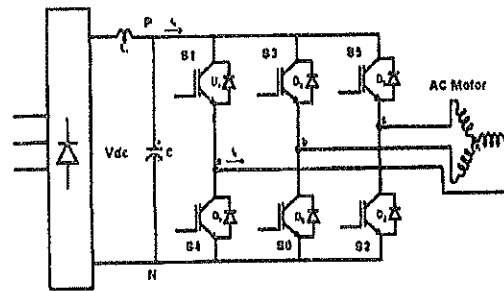
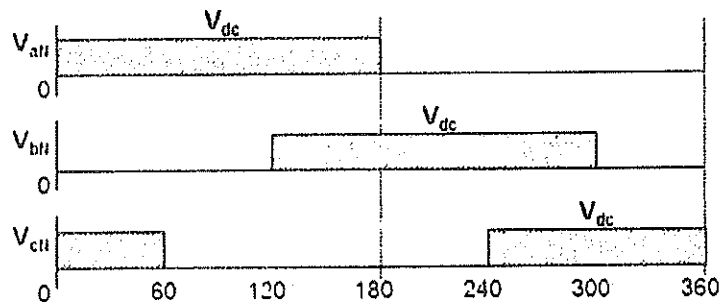

Fig. 5a
Fig. 5b.
- c- Given the line-to-negative voltages  $V_{AN}$ ,  $V_{BN}$ , and  $V_{CN}$  shown in Fig. 5b, for the six-step three-phase voltage source inverter, as shown in Fig. 5a, sketch the phase voltage  $V_{bn}$ . (5-marks)